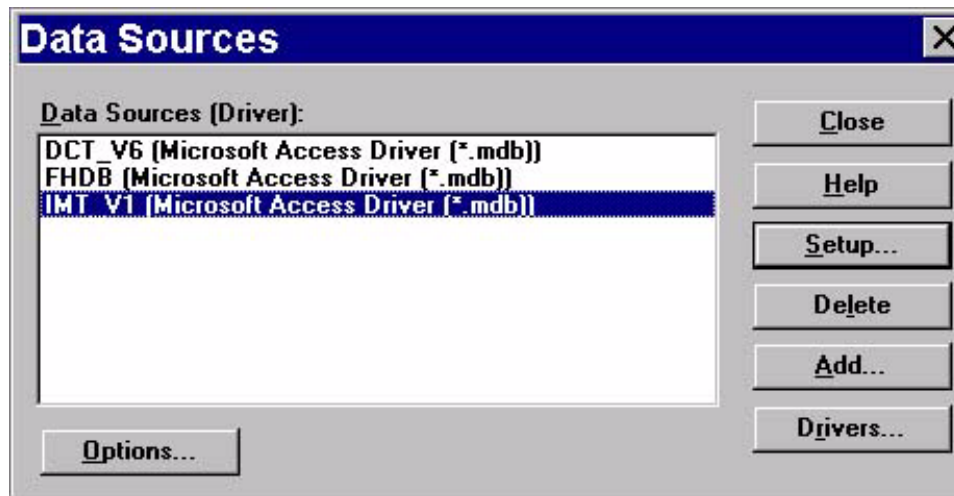

Figure 2
- In the "Data Sources" window select the "IMT_V1 (Microsoft Access Driver (*.mdb))" see Figure 2 below.
- On the Data Sources window select "Close" (refer to Figure 2) to exit the ODBC manager. ●